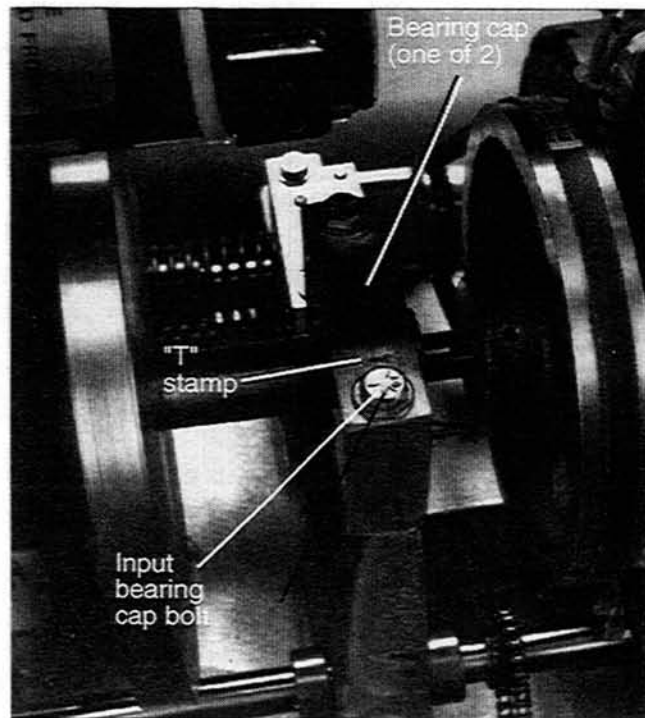

Figure 3-16. "T" Stamp Shows Bearing Cap Orientation
11. Use a ratchet wrench with a long extension to remove the four bolts that hold the bearing caps in place (Figure 3-16).
Verify that the "T" (top) stamp on each bearing cap faces up. See Figure 3-16 on page 3-8.
6. Verify that the "T" (top) stamp on each bearing cap faces up, then use a ratchet wrench with a long extension to tighten the bolts. See Figure 3-16 on page 3-8.